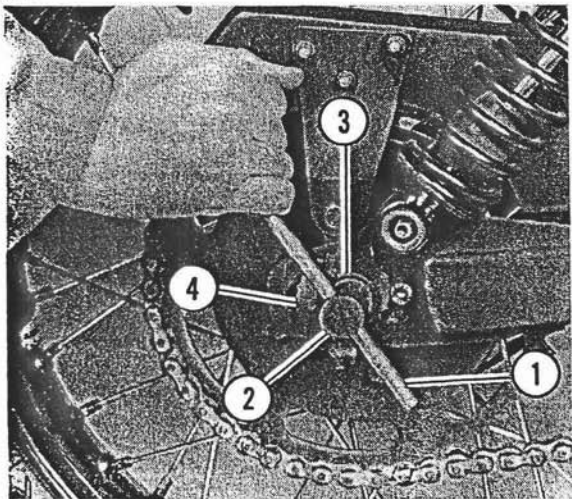

Figure 5-42. Removing Rear Axle
4. See Figure 5-42. Using bar (1) from tool kit, remove axle (2), flat washer (3), and right chain tension adjustment cam (4).
5. See Figure 5-42. Install right chain tension adjustment cam (4), flat washer (3), and axle (2). Support tire and wheel with one hand while tapping spindle into hub with a *soft-headed mallet*.